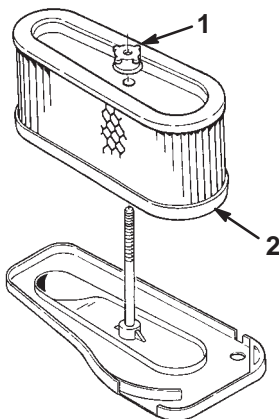

Figure 21
4. Unscrew the rubber nut and carefully remove the paper element (Fig. 21).
1. Slide the paper element onto the long rod. Screw the rubber nut finger-tight against the air cleaner (Fig. 21).